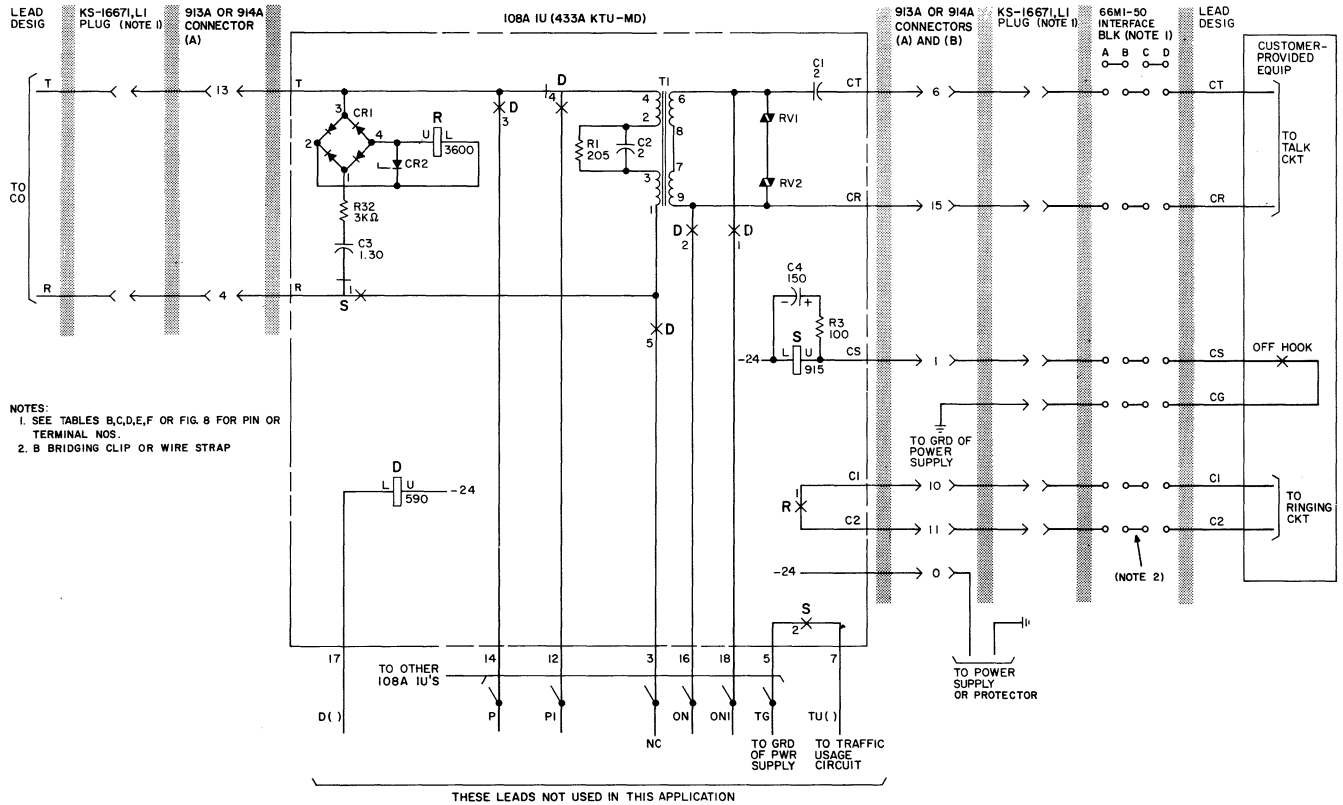

Fig. 9—Schematic Diagram—108A Interconnecting Unit
A. 108A Interconnecting Unit (Fig. 9)